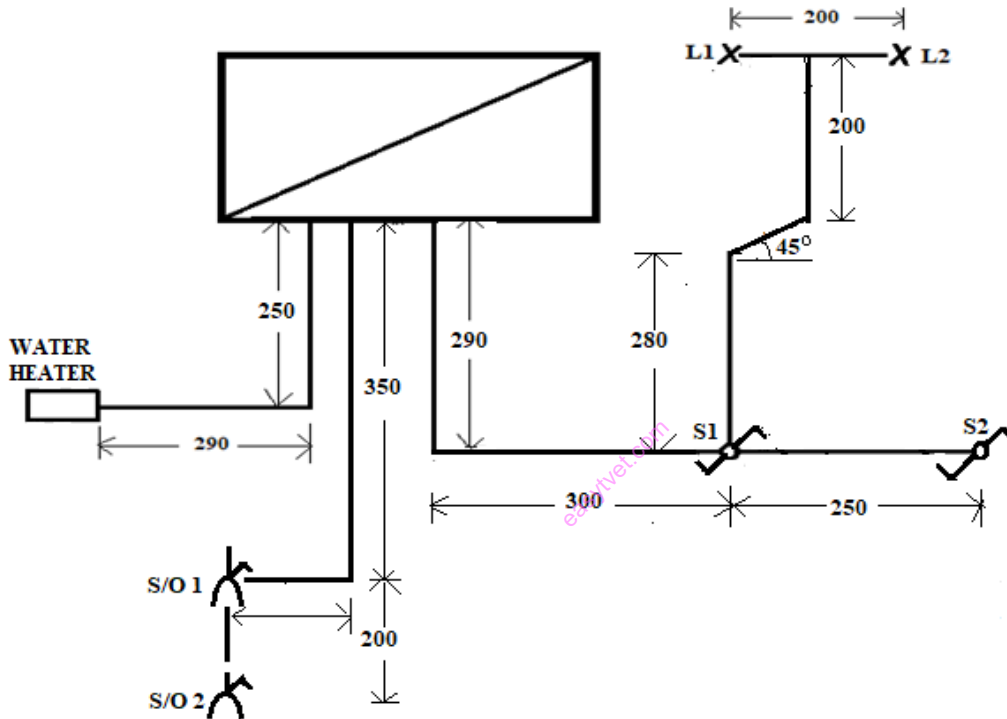

Figure 1
- 1. Figure 1** shows a layout diagram of the pre-installed electrical installation project such that:
- i. Preinstalled electrical project as shown in Figure 1